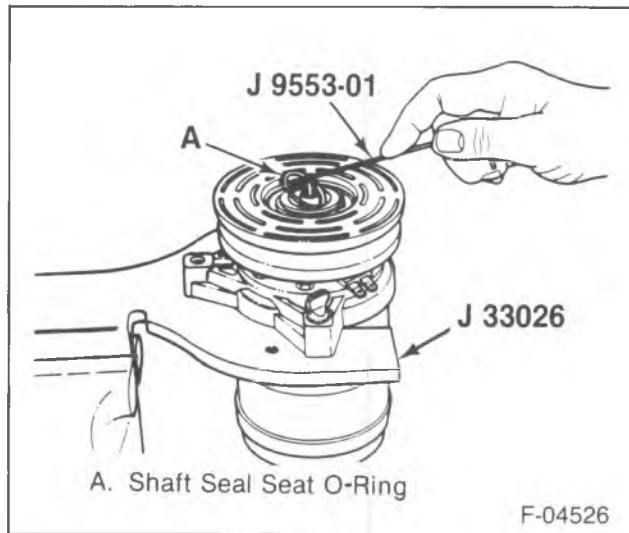

Figure 23—Removing the Shaft Seal Seat O-Ring
4. O-Ring seal using J 9553-01 (figure 23).